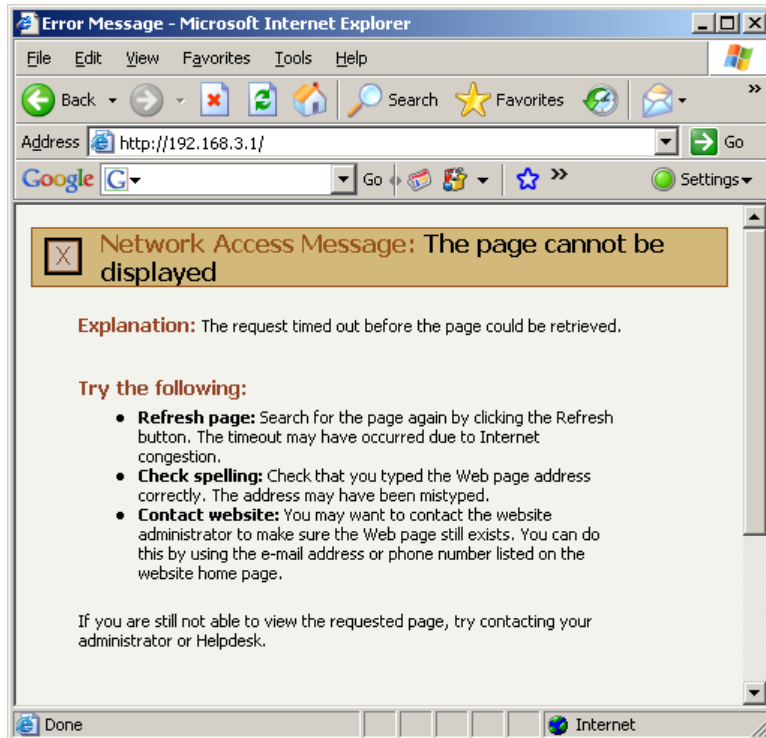

Figure 4-14
7. Troubleshooting—If you don’t get a login screen in step 6 and get something as shown in Figure 4-14 below, try rebooting your laptop. If that doesn’t work, try shutting down the UFP and turning it back on (be sure to shut it down with the menu on the front panel rather than just turning it off. It has an on-board computer that needs to be shut down properly, just like Windows® operating system).